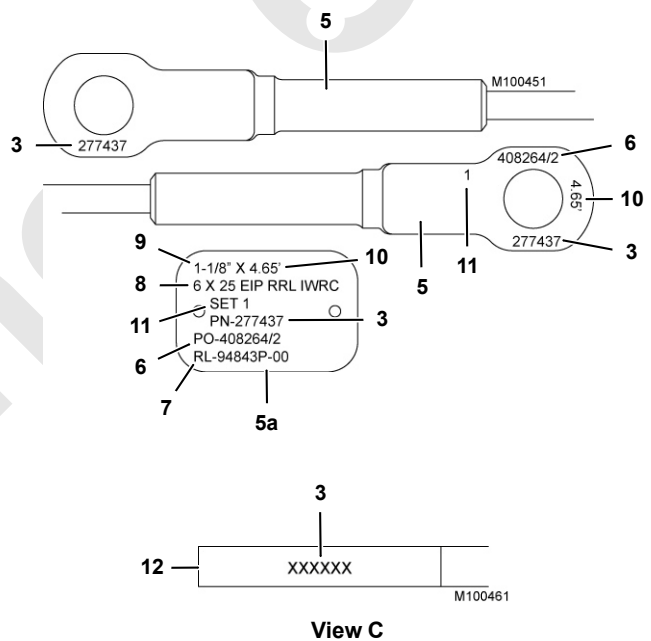

FIGURE 4-1
Jib sections are marked for proper identification as shown in Views A and B, Figure 4-1.
Jib pendants are marked for proper identification as shown in View C, Figure 4-1.
Jib straps and links are marked for proper identification as shown in View D, Figure 4-1.
**NOTE:** The markings shown in Figure 4-1 can vary depending on when your crane was produced and the original equipment manufacturer.